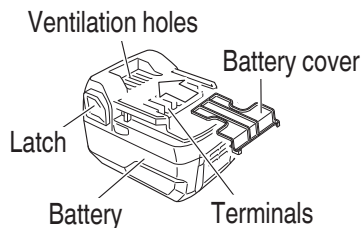

Fig. 1
- Either install the battery in the power tool or store by securely pressing into the battery cover until the ventilation holes are concealed to prevent short-circuits (Fig. 1).